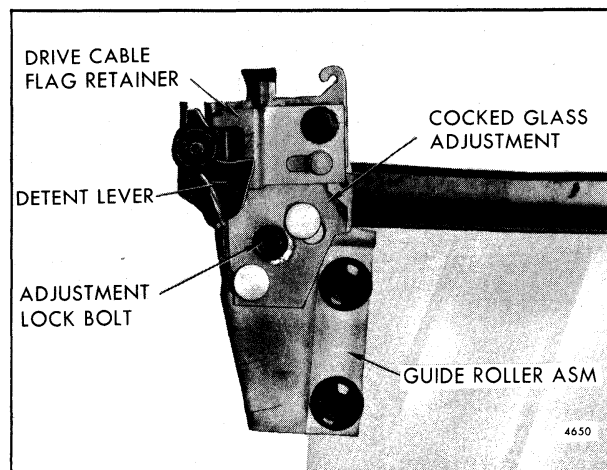

Fig. 7-123-Window Guide Roller Assembly - Upper Right
6. Remove drive cable flag retainer screw and move flag retainer inboard out of engagement with flag (Fig. 7-123).
A cocked window adjustment is controlled by loosening and rotating the right upper roller support in desired direction (Fig. 7-123).